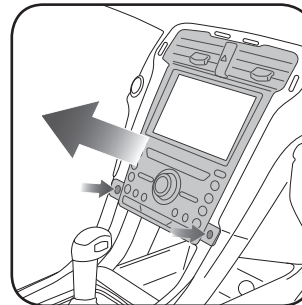

Fig. 1.5
5. Remove two (2) 7mm screws holding the radio and control panel. Unclip, remove and unplug the radio and control panel. (Fig. 1.5)